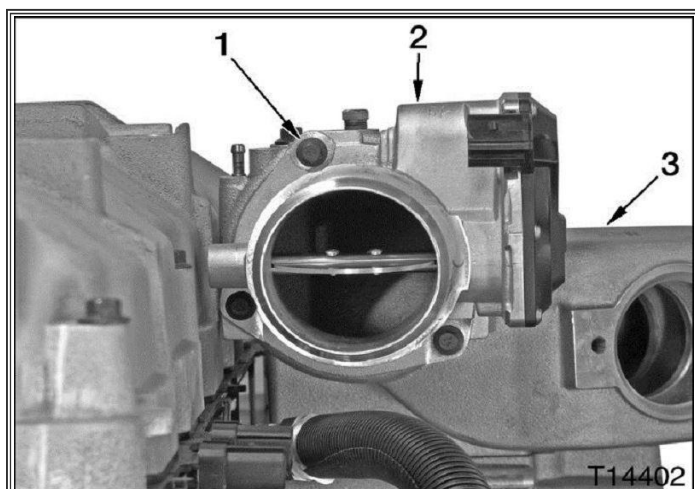

Figure 11: Engine Throttle Valve (ETV) Assembly
1. M6 X 25 bolt (3)
41. Install new inlet throttle gasket onto air and EGR mixer (Figure 11, Item 3).
42. Using three previously removed bolts (Figure 11, Item 1), position ETV assembly (Figure 11, Item 2) onto air and EGR mixer duct assembly and loosely install bolts.